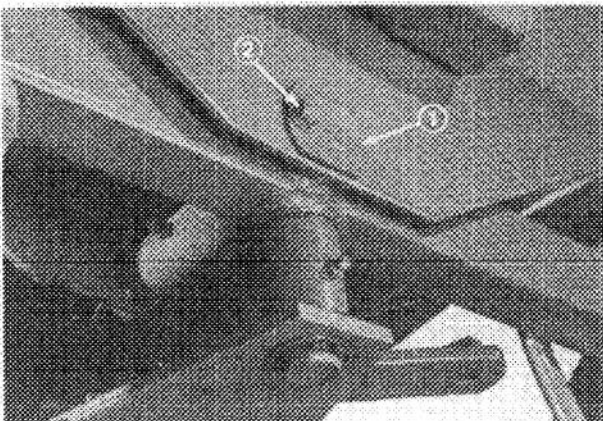
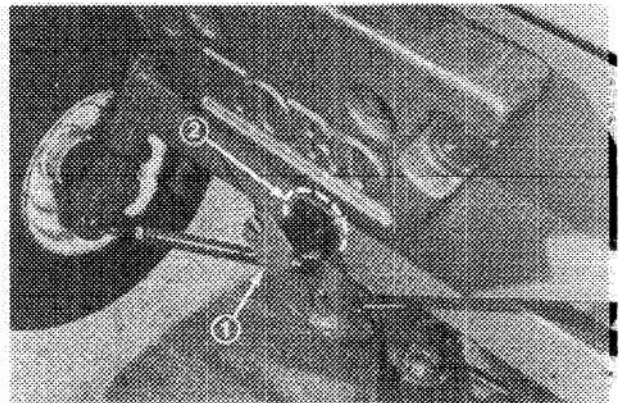

Figure 42
Figure 44
3. Remove capscrew, lockwasher and flatwasher holding outside of axle pin to chassis (Fig. 42).
9. Move rear axle into position at rear of machine. Mount axle between two sections of frame with axle pin and two thrust washers (Fig. 44). The thrust washers must be positioned at ends of the axle pivot tube and between both sections of the frame. Secure axle pin in place with capscrew, lockwasher and flatwasher (Fig. 42).
12. Move rear axle into position at rear of machine. Mount axle between two sections of frame with axle pin and two thrust washers (Fig. 44). The thrust washers must be positioned at ends of the axle pivot tube and between both sections of the frame. Secure axle pin in place with capscrew and lockwasher (Fig. 42).